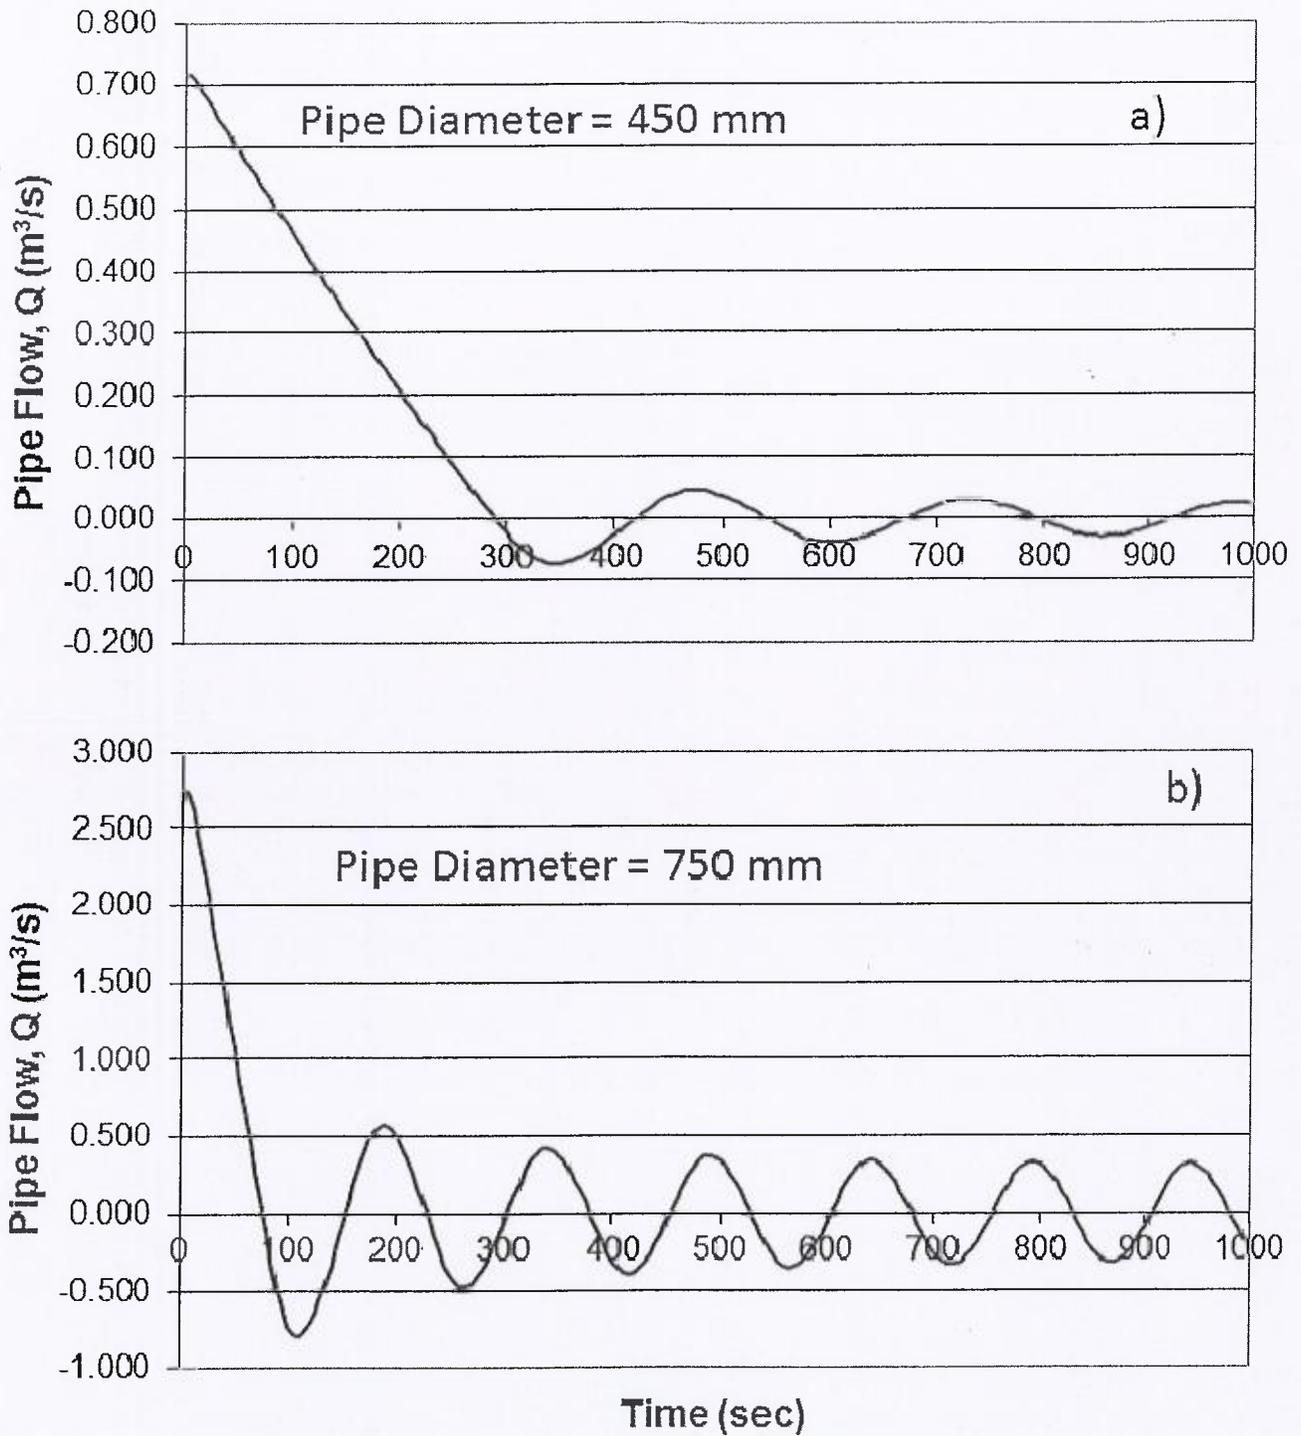

Figure 4a-b: Time series of flow in a) 450 mm pipe, and b) 750 mm pipe for the first 1,000 sec of the simulation.
- The plots in Figure 4a-b shows the system response when the pipe has a diameter of 450 mm (Figure 4a) and when the pipe diameter is increased to a 750 mm diameter (Figure 4b). Explain the difference between these two responses. Base your explanation on the physical meaning of the mathematical terms in the rigid water column model.